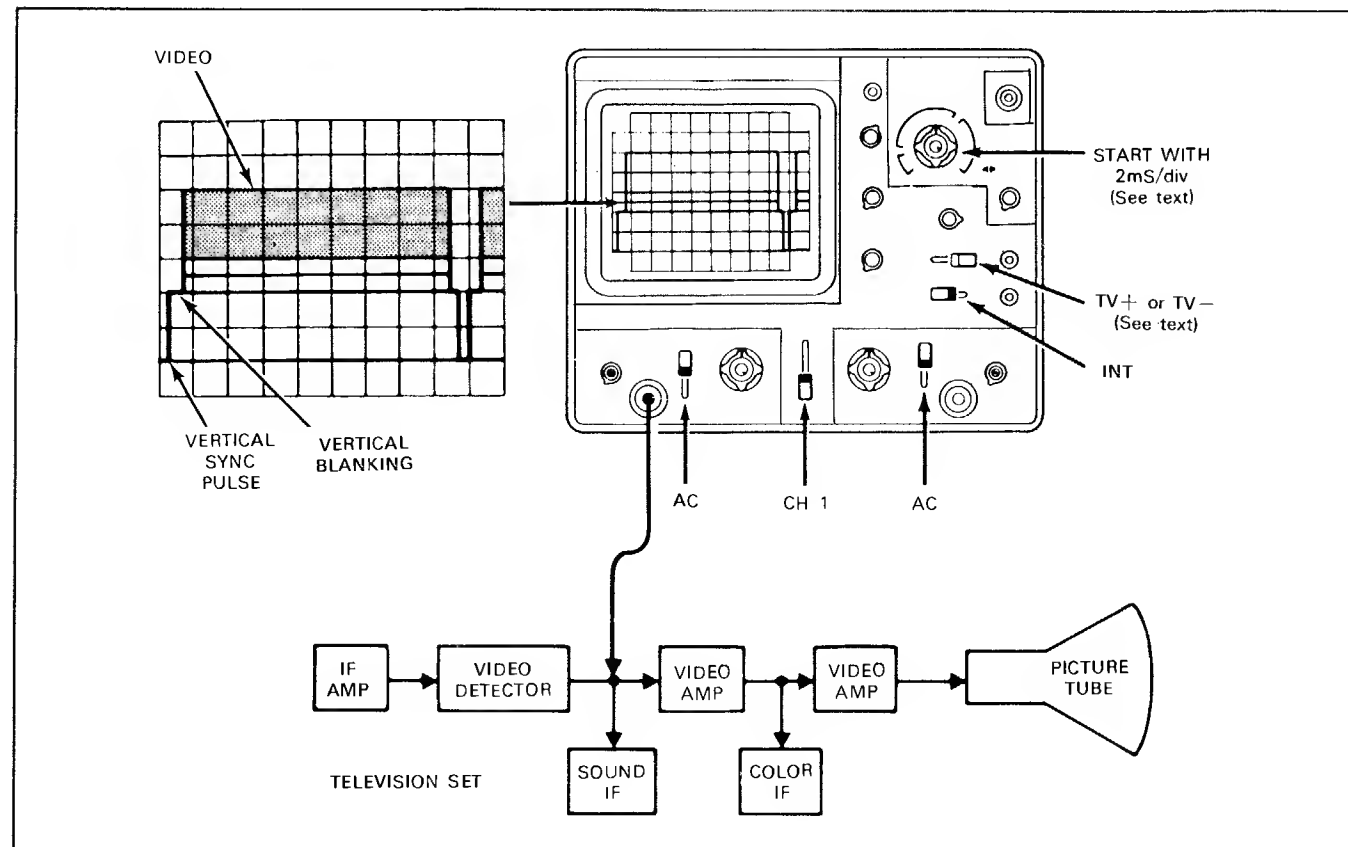

Fig. 13 Set-up for viewing fields 1 and 2 of VITS information
cept that the burst at 2.0MHz is low compared to other burst signals. This suggests the IF trap is detuned into the passband, chopping out frequencies about 2 MHz below the picture carrier frequency. Switch to another channel, if the amplifier requires realignment. If the picture quality is the same, then our reasoning is right, and if the picture quality of another channel is normal, the FM trap at the tuner input is misadjusted. Fig. 13 shows the method of viewing the VITS waveforms.
2. The method shown in Fig. 13 is used to obtain Field 2 vertical signal on CH1.